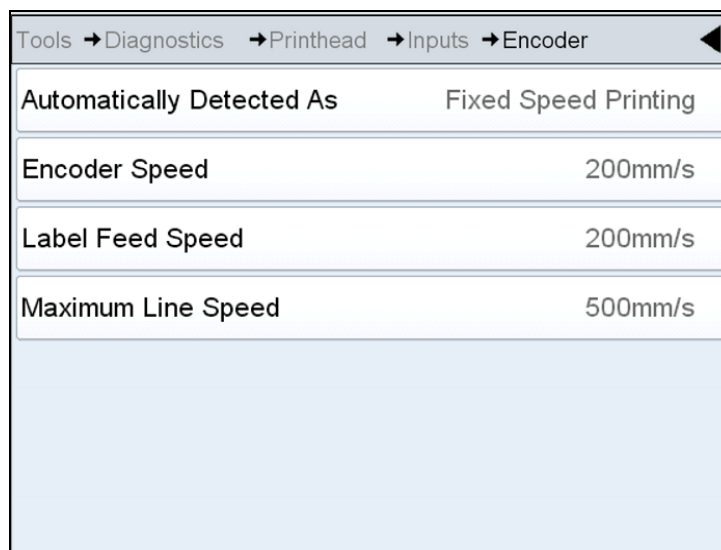

Figure 4-12: Encoder Diagnostics Page
- Encoder: Touch the *Encoder* button to view the *Encoder* diagnostics page. The *Encoder* diagnostics page allows the user to view the following encoder parameters (see Figure 4-12).